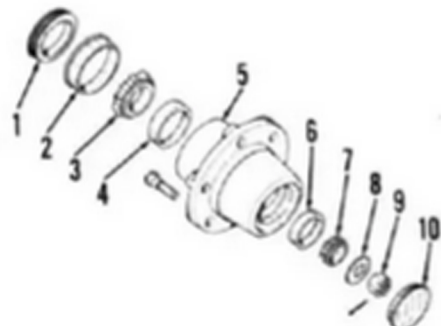

Fig. 3—Exploded view of front wheel hub and bearings.
4. Front wheel bearings should be removed, cleaned and repacked with IH251H EP or equivalent No. 2 multipurpose lithium grease each 800 hours of operation. Raise front of tractor and remove cap (10—Fig. 3), nut (9), washer (8) and outer bearing cone (7). Lift off wheel and hub assembly and remove inner bearing cone (3). Clean and inspect all parts and renew any showing excessive wear or other damage.